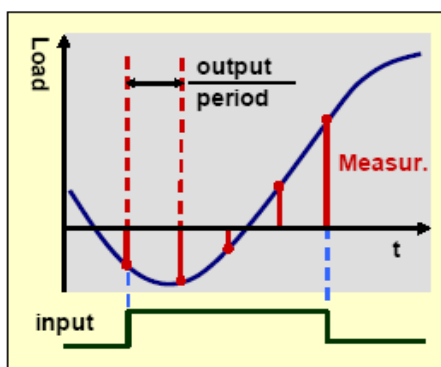

Fig. 4
8.2.2 Measurement window (fig.4) :